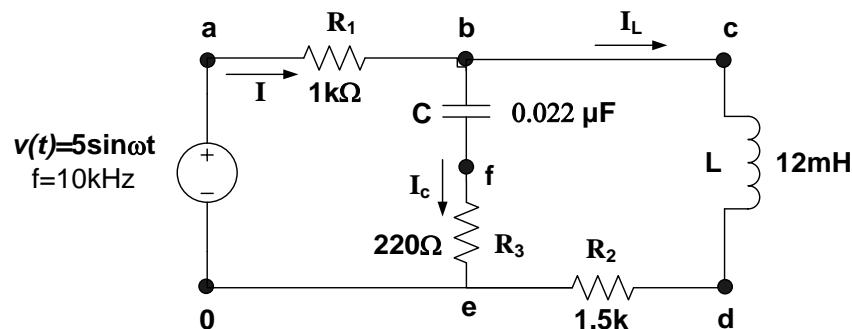

Fig. 1: RLC circuit
The students learned how to use the **Function Generator** and **Oscilloscope** in the previous experiment. In this experiment they will learn to build and take measurements in AC circuits. The circuit will be simulated on *Multisim Electronics Workbench*. Then they will build it with hardware components and check the accuracy of the measurements compared with the simulation results. Consider the circuit given in Fig. 1.
1. Measure currents in each branch of the circuit of Fig. 1 using the **Oscilloscope**